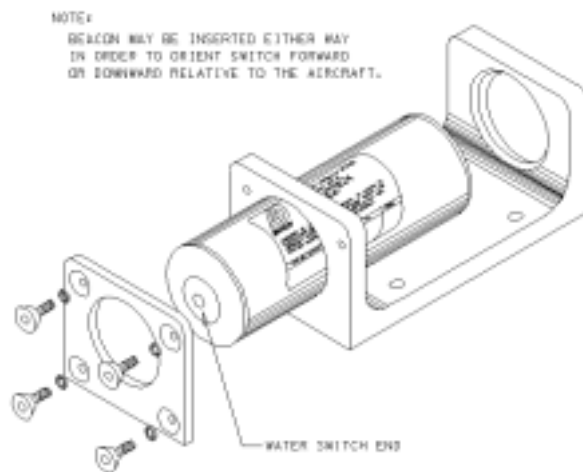

Figure 4. Installation of N30A26 Series Mounting Kit and Beacon
D. Insert the beacon into the mounting cradle with the water switch facing forward and/or downward with reference to the aircraft. Rotate the beacon in the mount so that the beacon replacement date can be read. See Figure 4.